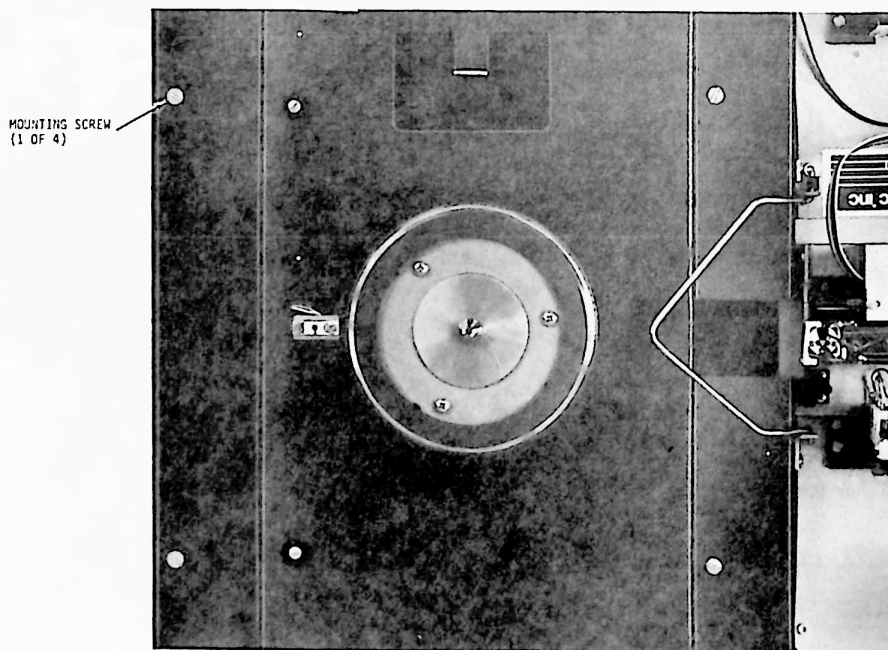

Figure 3-32. Fixed Disc Removal; Fixed Disc Cover
- b. Lift up receiver assembly to gain access to four screws (figure 3-32).
- h. Remove four screws securing fixed disc cover to drive chassis and remove fixed disc cover (figure 3-32).